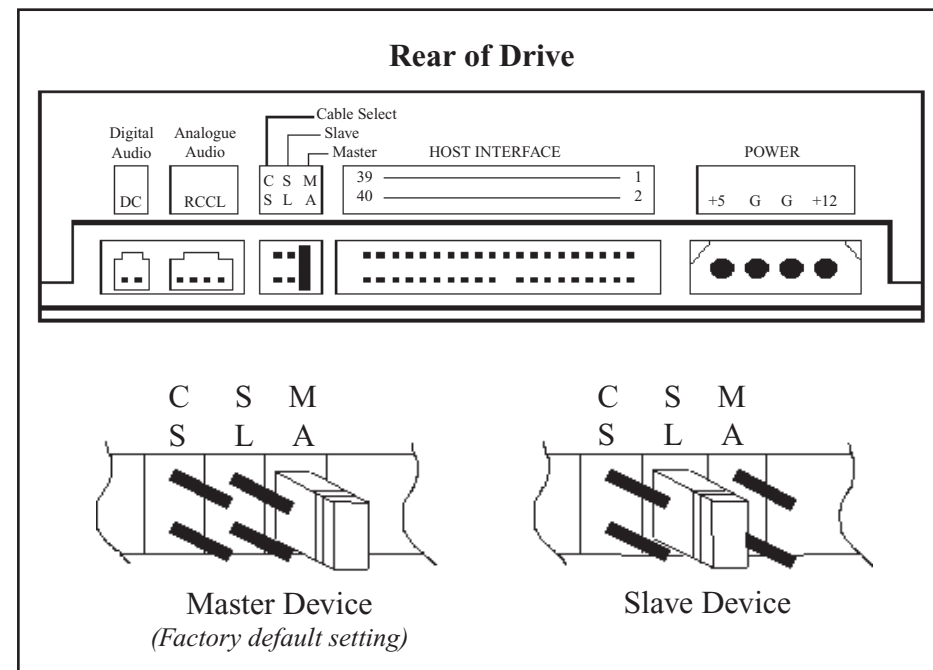

Figure 1
- 1 Set the Master/Slave jumper on CD-ROM rear panel (*refer to figure 1*)
- 3 Connect the power supply cable to the CD-ROM drive. (*Ensure the pin definition of power connector is the same as shown in figure 1*).
- 4 Connect the 40 pin IDE / ATAPI cable to the CD-ROM drive according to the description in figure 1 (*Note: Pin 1 on the cable is generally indicated by a red stripe along the edge of the ribbon cable*).
There are three pairs of jumpers, MA (Master), SL (Slave) and CS (Cable Select) on the rear panel of your CD-ROM drive. Figure 1 shows the location of each jumper.